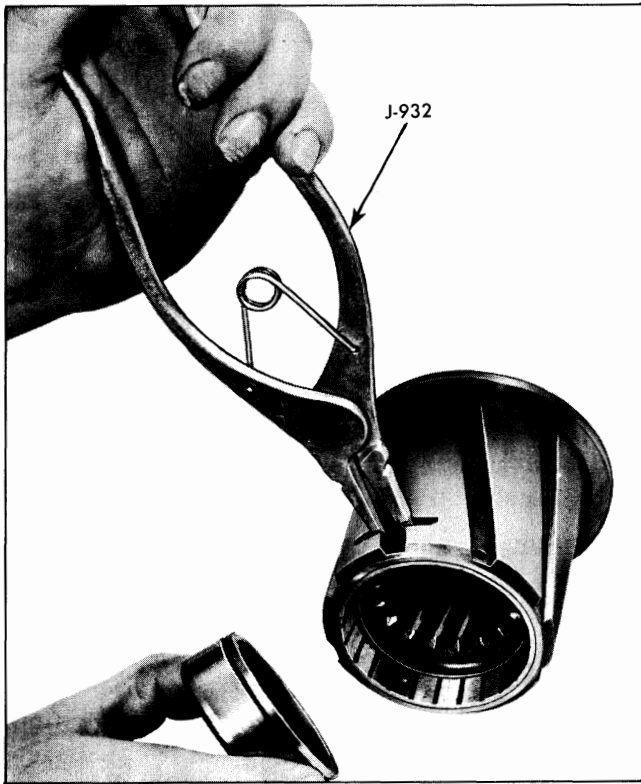

Fig. 7-25 Removing or Installing Synchronizer Ring
2. Using tool J-932, expand ring retainer in the counterbore in clutch sleeve (Fig. 7-25), and withdraw synchronizer ring.
3. Insert tool J-932 through slot in clutch sleeve (Fig. 7-25), and expand retainer in counterbore. Install ring in clutch sleeve.